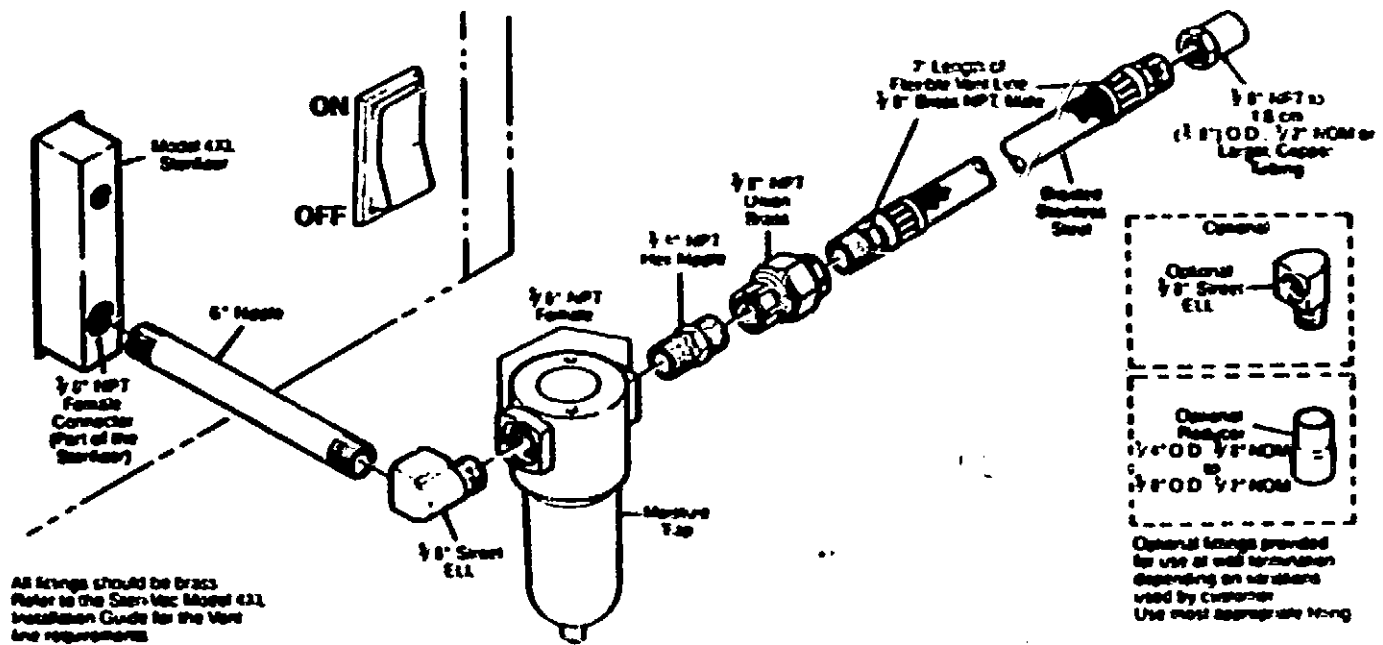

Figure 5: Suggested Vent Line Connection
12.8 Refer to Figure 5 for diagrams of vent line connections.
12.9.4 Refer to Figure 5 for a diagram of flexible tubing connection to a sterilizer.